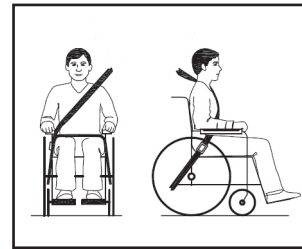

Figure 4
### Side equipped with armrest (see fig. 4)
- Pelvic restraints should make full contact across the front of the body near the junction of the thigh and pelvis. The upper belt must fully support the user as illustrated in figure 4.